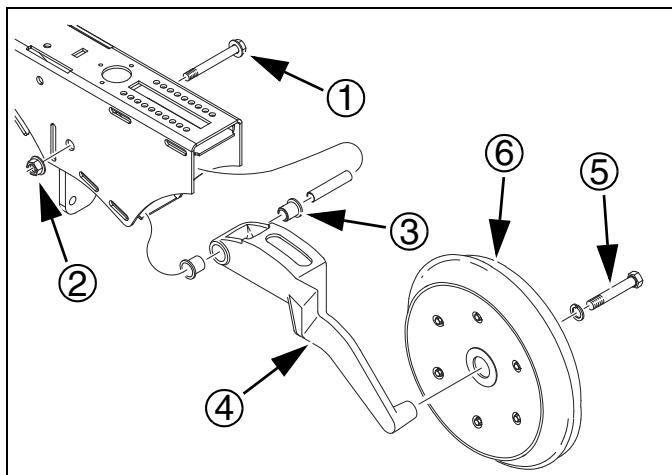

Figure 2
**Refer to Figure 2.**
1. Remove 1/2 x 3 3/4-inch flange bolt (1) and flange lock nut (4) from each opener body.
2. Leave pivot bushing (2) in place and bolt press-wheel arm (3) to opener with 1/2 x 3 3/4-inch flange bolt (1) and lock nut (4). Repeat for all openers.
3. Remove 5/8-inch bolt (5) from each press-wheel arm (3) and use bolts to assemble press wheels (6) to press-wheel arms.